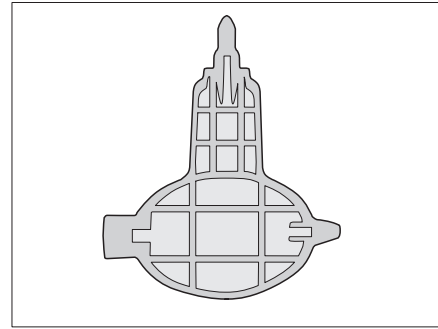

Fig. 374 Key for Siphon (only Alpa)
- ▷ The Alpa model has a key (Fig. 374) enclosed for the releasing the siphon.